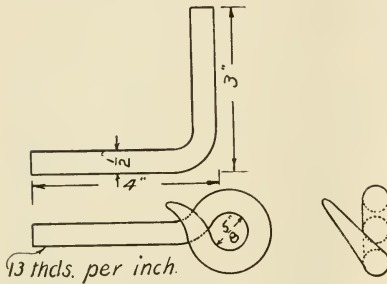
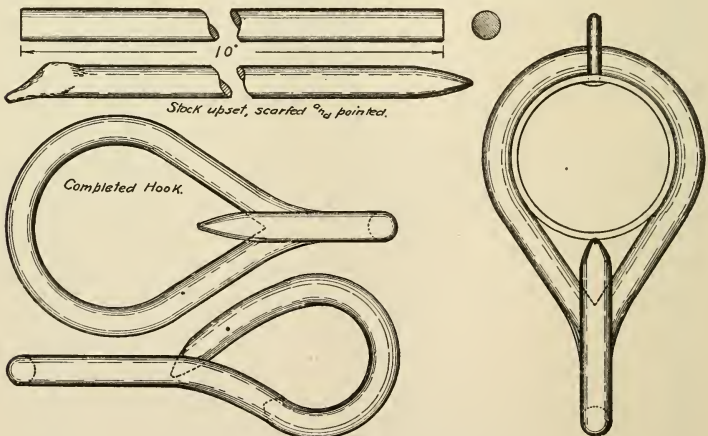

FIG. 208. — SINGLETREE HOOKS.
FIG. 209. — CLIPS FOR ENDS OF SINGLETREES.
2. If hooks as shown in Fig. 208 are to be used at the ends of the singletrees, make them of $\frac{1}{2}$ " round iron. One end of each is drawn out to a blunt point and then
3. Clips as shown in Fig. 209 are better for the ends of the singletrees than the hooks shown in Fig. 208. For the flat rings covering the ends of the singletrees,